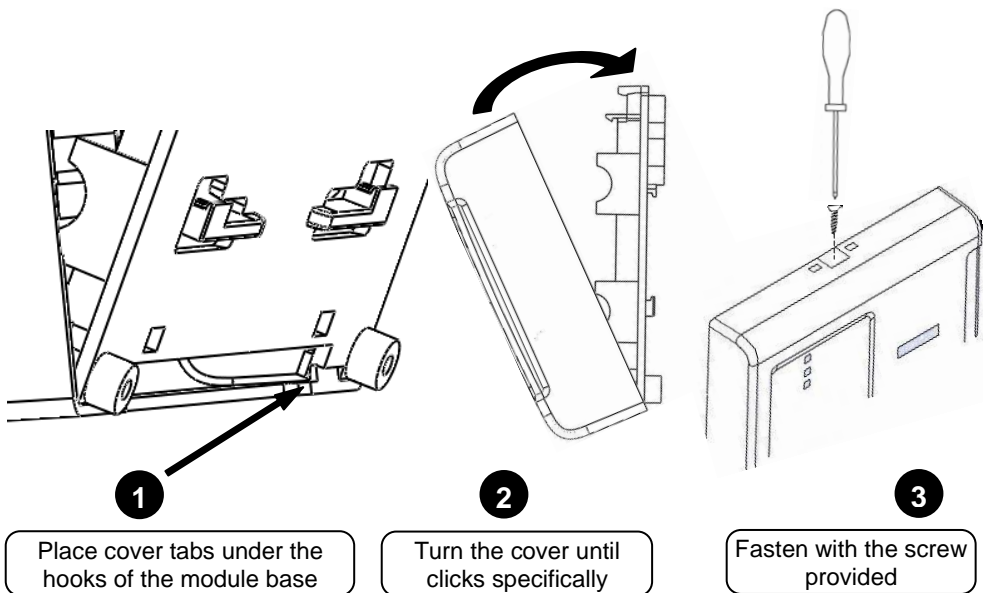

Figure 6. Closing the Module Front Cover
4.4 Close the module front cover as shown in Figure 6.